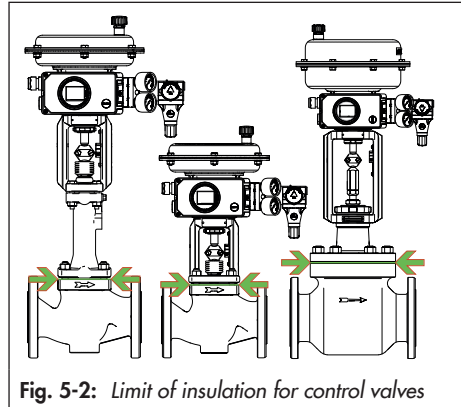

Fig. 5-2: Limit of insulation for control valves
- Only insulate control valves up to the bonnet flange of the valve body (see Fig. 5-2). This also applies to versions with bellows seal or insulating section at medium temperatures below 0 °C (32 °F) or above 220 °C (428 °F).. If the insulating section is insulated, it will not function properly.